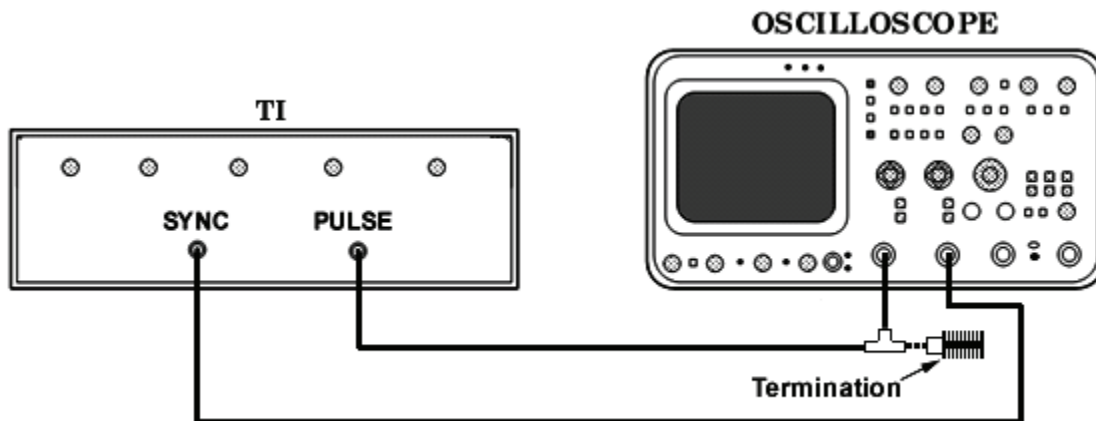

Figure 3. Amplitude - equipment setup.
- (1) Connect equipment as shown in figure 3.